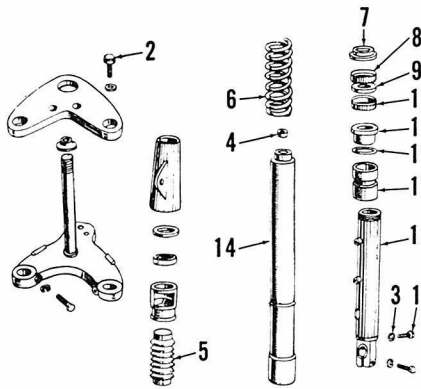

Fig. K1-9—Exploded view of typical front suspension unit.
On all models, front suspension is drained at screw (1—Fig. K1-9) and filled at screw (2).